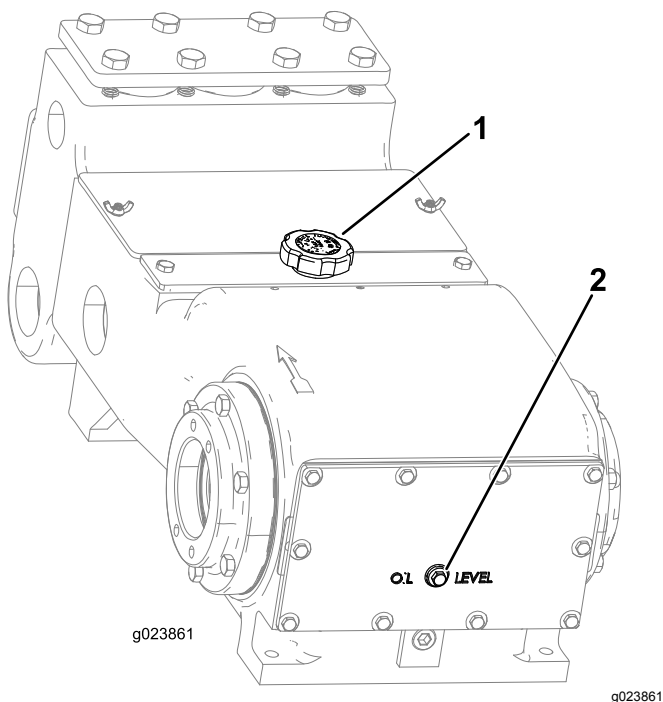
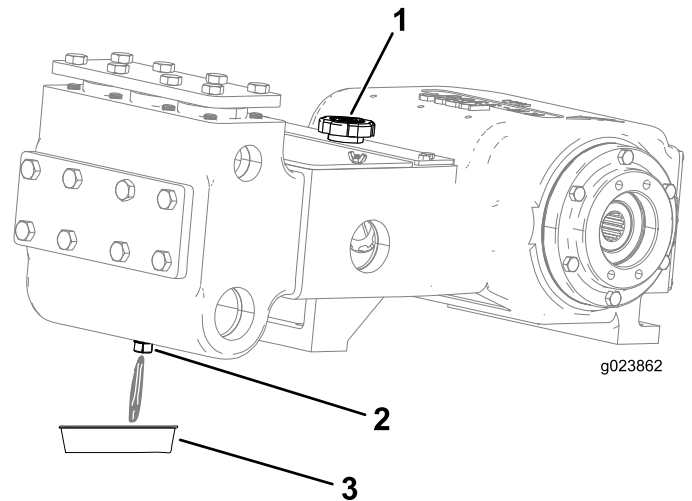

Figure 124
Figure 125
2. Remove the oil-level plug on the crankcase (Figure 124).
3. Ensure that the oil is at the oil-fill line as shown in Figure 124.
4. Remove the drain plug and place a drain pan under the drain-plug hole (Figure 125).
6. Allow all of the oil to drain from drain plug into the oil pan (Figure 125).
8. Remove the oil-filler cap (Figure 125) and add approximately 1.8 L (4 US qt) of oil, or until the oil reaches the level of the oil-level plug as shown in Figure 124.